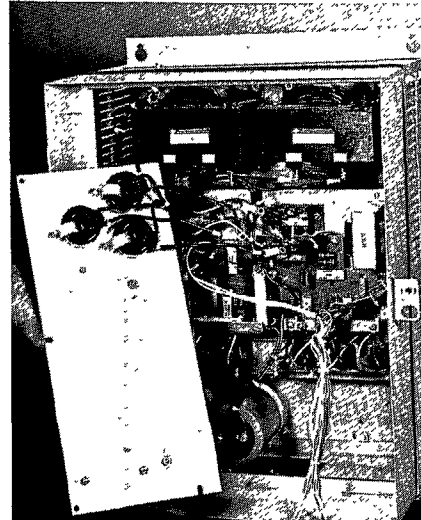

FIGURE 42
4. Remove the hardware (screws, nuts and washers) that fasten the reactor to the panel. Note that the screw holding the reactor may also hold the fuse block on the front of the panel. Remove the reactor assembly being careful to note the position that it was mounted in. (see Figure 42)